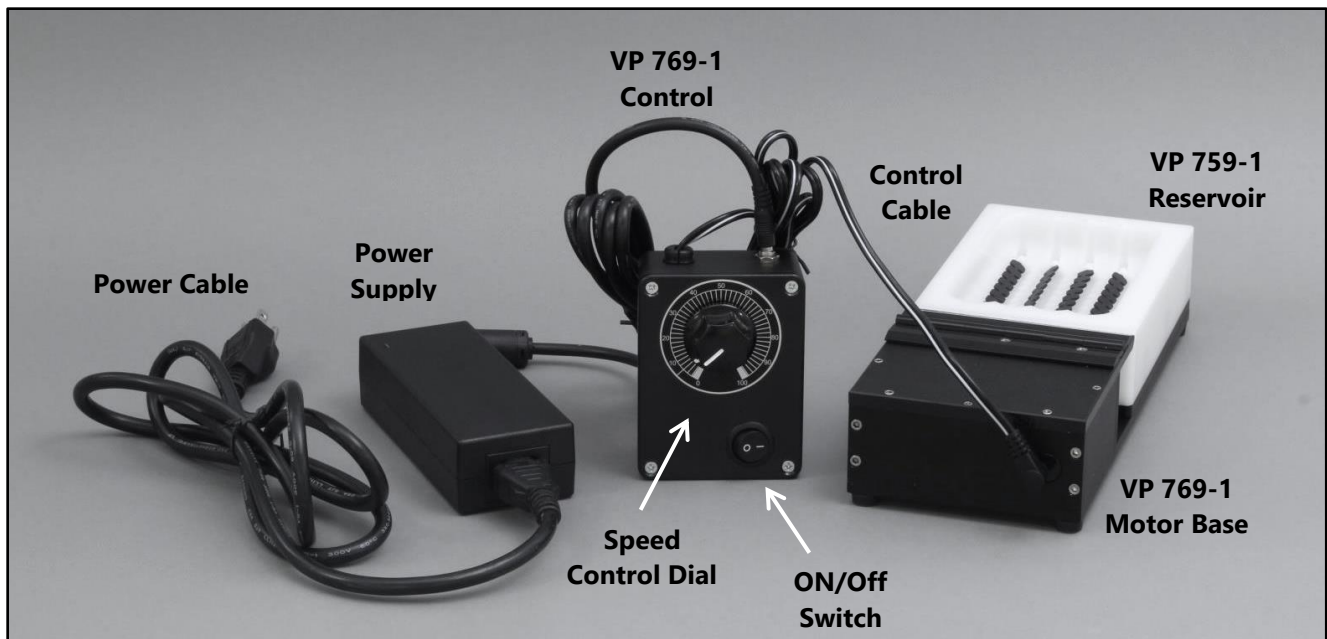

Figure 6. The VP 769-1 system shown with the cables attached and VP 759-1 Reservoir on Base.
- 3) Connect all of the cables as shown in Figure 6 (page 4). Make sure that On/Off switch is off when connecting power supply. Never directly connect power supply to motor base. Always connect through the control box.